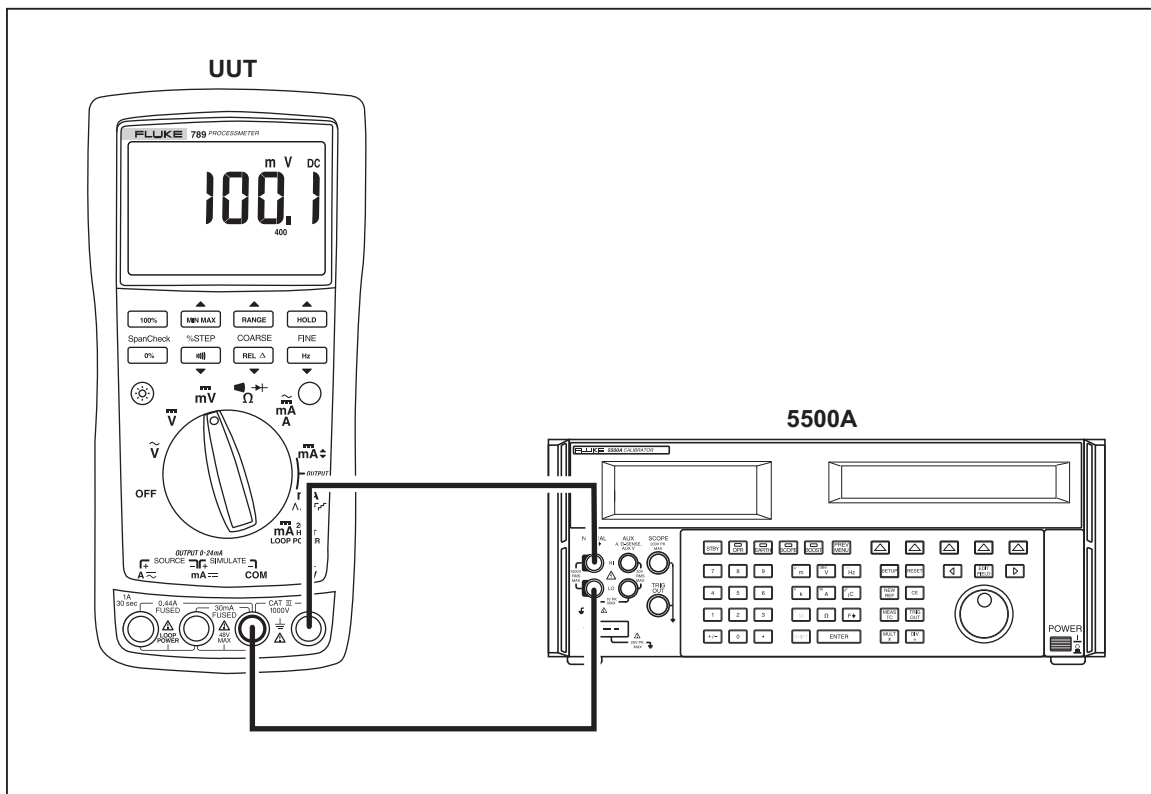

Figure 8. DC mV Measurement Test Connections
3. Connect the calibrator to the **COM** and  $\Omega\text{V}$  terminals on the UUT as shown in Figure 8.